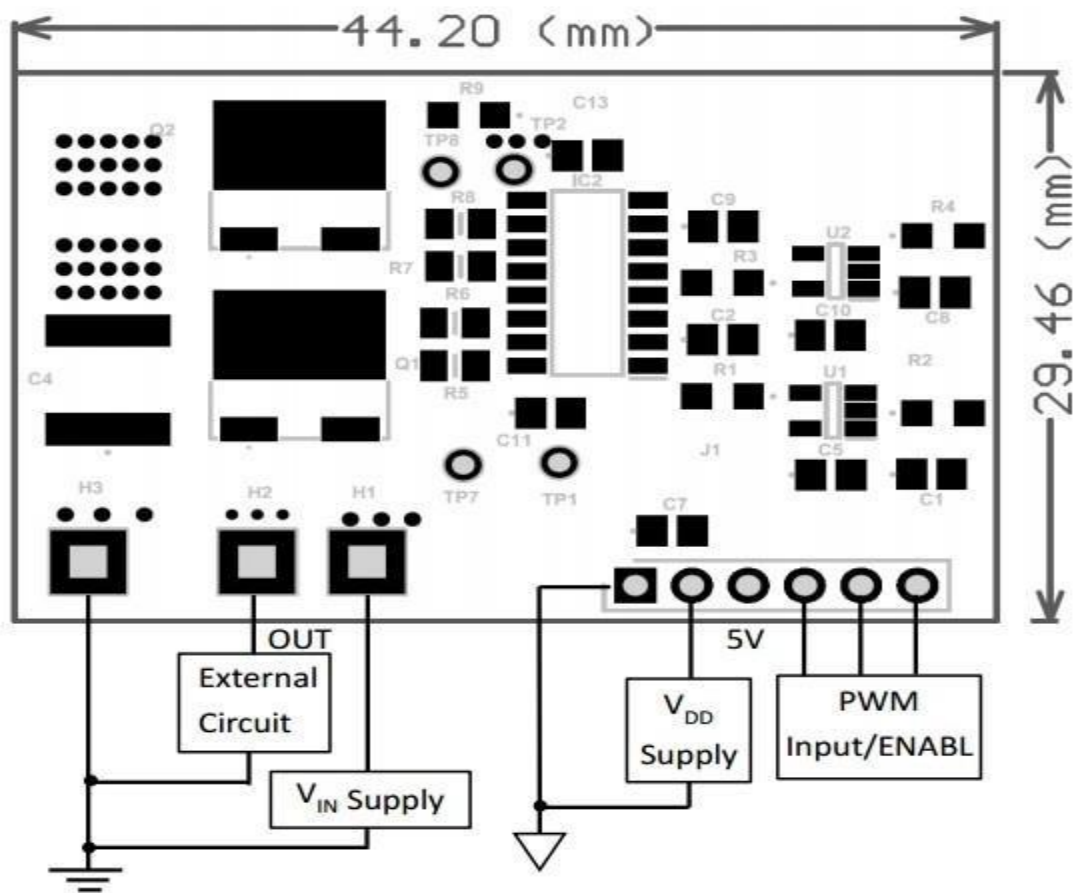

Figure 2. Reference board INF_HB240A_top view
Reference board INF_HB240A is easy to set up to evaluate the performance of two Infinityrf D-GaN half bridge ICs operated in series . Refer to Figure 2. for proper connect and measurement setup and follow the procedure below:
2. With power off, connect the switch node of the half bridge OUT (H2) to your circuit as required (half bridge configuration). The INF_HB240A features an optional buck converter configuration, as shown in figure 2, with unpopulated footprints for an output inductor and output capacitors.